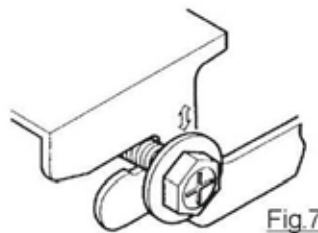

Fig.7
5. Lift the unit and slide forward until the dent. (Refer to Fig.7)